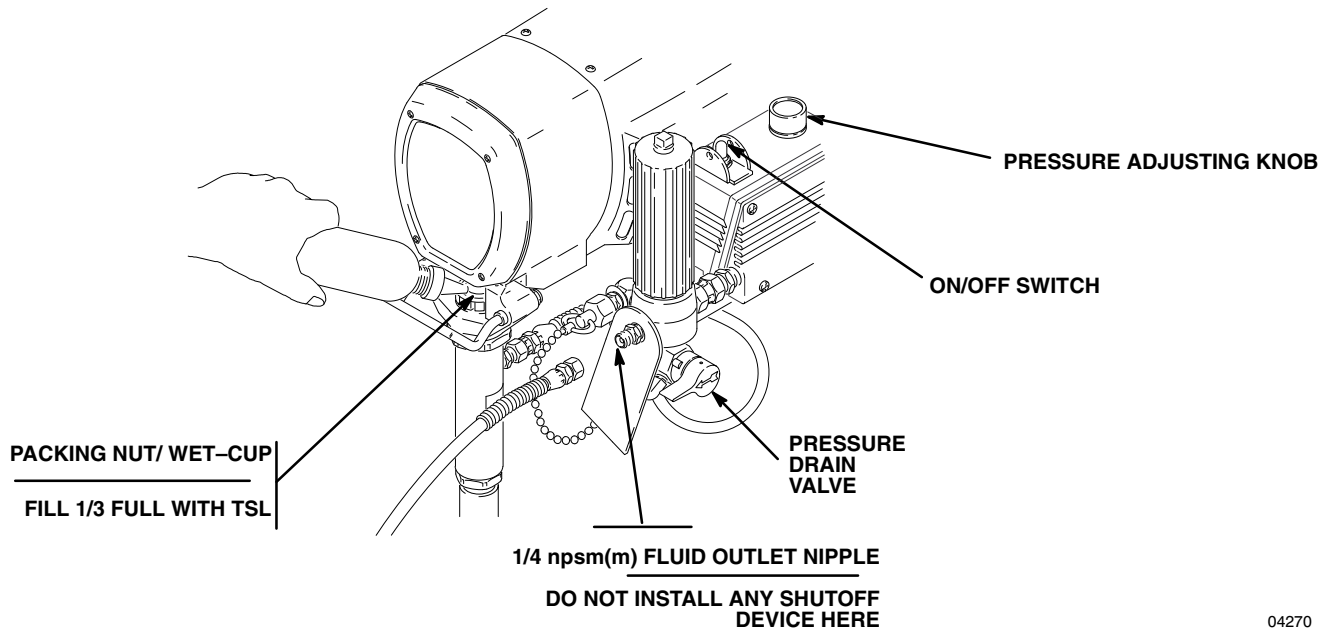

Fig. 2
3. Never install any shutoff device between the filter and the main hose. See Fig. 2.
NOTE: See Fig. 2 while doing the setup.